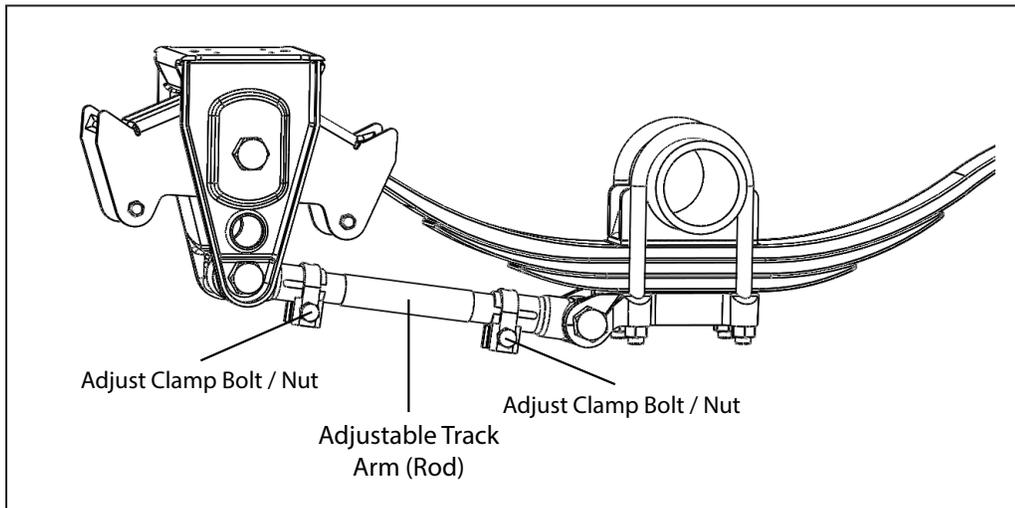

Figure 1
Release the clamps at each end of the adjustable rod (Figure 1). Align front axle with the king pin and adjust each axle thereafter parallel to the front axle. Be sure to secure the clamps on the adjustable track arm (rod) after alignment (Figure 1).
Alignment Procedure (Figure 1)
1. Loosen the adjustable track rod clamp bolts (Figure 1) and turn the center rod to adjust as necessary (see torque table).
2. After adjusting, tighten the adjustable track rod clamp nuts (Figure 1) to proper torque (see torque table) and recheck measurements.